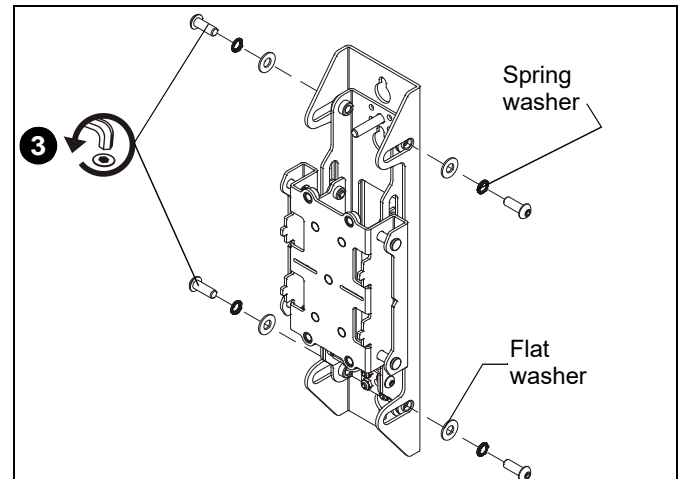

Figure 3
3. Remove one button head screw, spring washer and flat washer from four locations on side of wall upright. (See Figure 3)